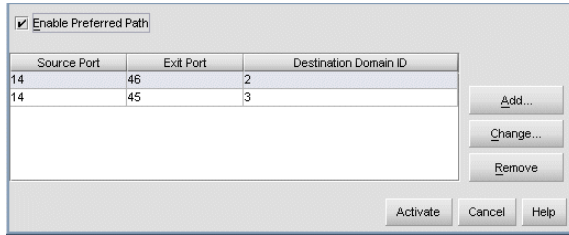

Figure 68 Configure Preferred Paths dialog box
1. Select **Configure > Preferred Path**. The Configure Preferred Paths dialog box appears as shown in Figure 68. The Configure Preferred Paths dialog box provides the configuration for a single switch's preferred path.
1. Select **Configure > Preferred Path**. The Configure Preferred Paths dialog box appears as shown in Figure 68.